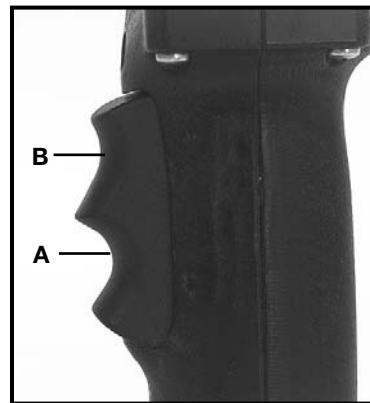

Fig. 3
4. To START the machine in FORWARD (clockwise rotation), depress the bottom of the trigger switch (A) Fig. 3.
To START the machine in REVERSE (counterclockwise rotation), depress the top of the trigger switch (B) Fig. 3.